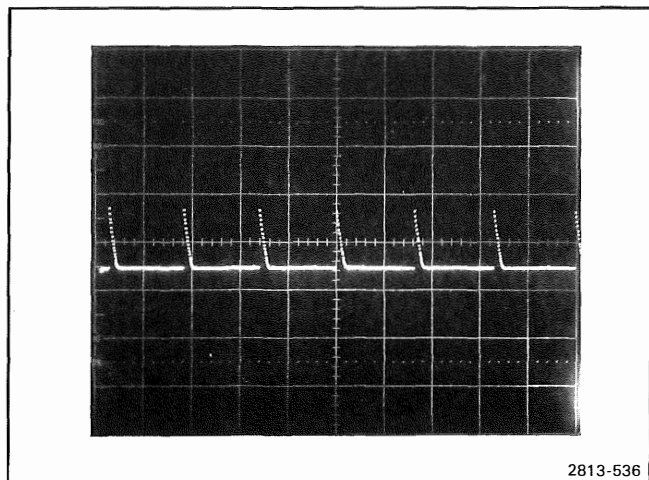

Figure 5-4. Typical display of time marks while checking External Sample Clock In function.
e. **CHECK**—for time marks moving from right to left across the crt. Figure 5-4 shows a typical display.